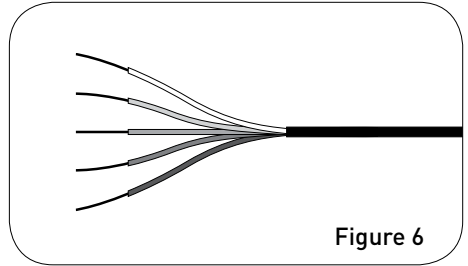

Figure 6
4. Remove 7/8"–1" of insulation from each individual wire (*Figure 6*)